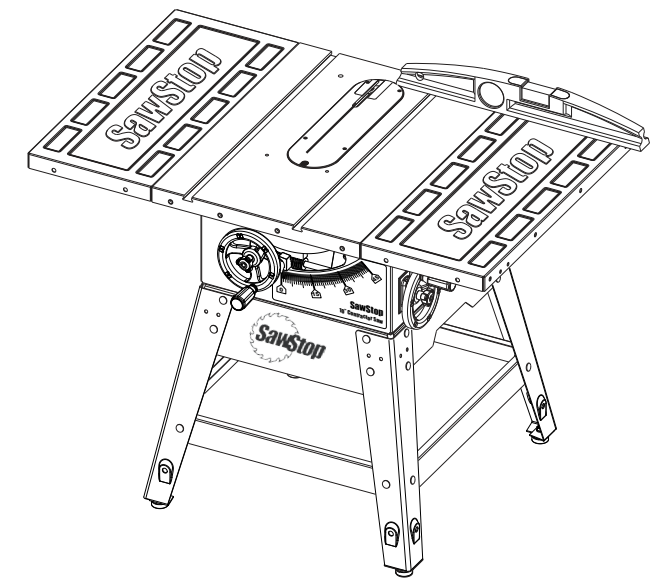

Fig. 21
21. Use a straight-edge to level the extension wings with the cast iron table top and tighten all of the M8 x 16 hex screws with a 13 mm wrench (see Fig. 21).